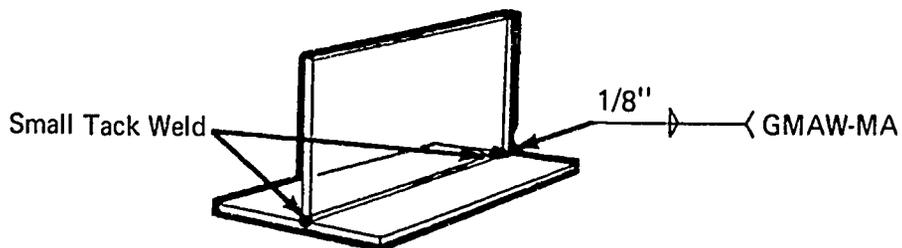

FIGURE 2
- E. Position metal to form a T-joint and tack on each end (Figure 2)